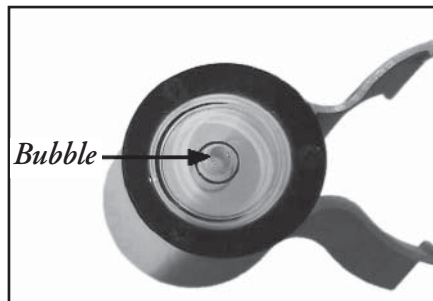

Figure 20
15. Before the Easytrack post tightens against the ceiling, check the clip-on level to make sure the bubble is in the center of the circle. Tilt the post until the bubble reaches the center of the circle (Figure 20).